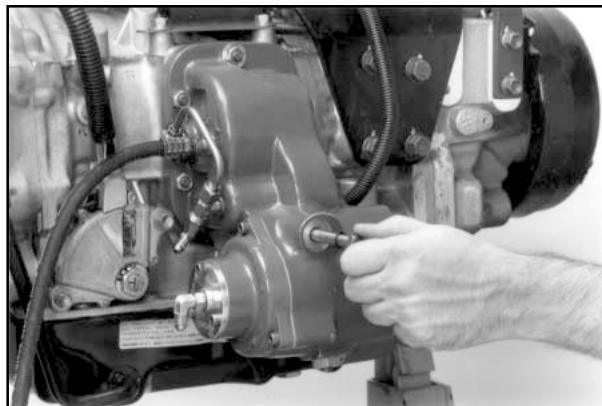

Figure 10
11. Slide the P.T.O. over the studs and install the long capscrew through the P.T.O. housing and into the transmission (**Figure 10**). **NOTE:** Make sure the O-Ring is still on this capscrew.